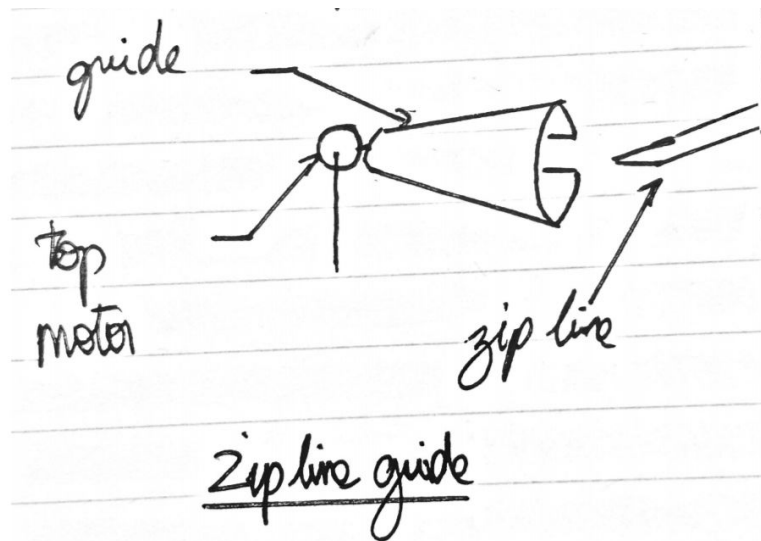

Figure 6 : Diagram of the zip line guide
- A guide could be used to physically correct the robot to successfully mount the zip line. This would allow for a larger tolerance for error. See **Figure 6**.